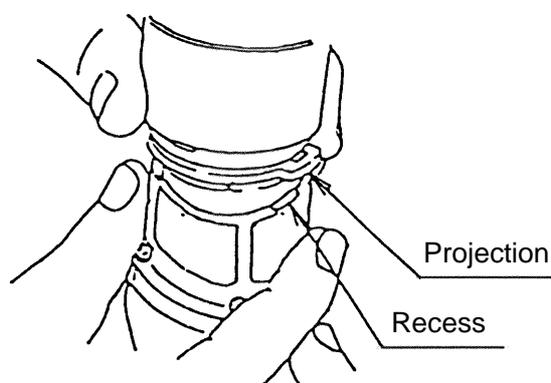

Fig. 12
(f) Install the assembly reassembled in step (1) and the assembly reassembled in step (e) together. (See Fig.12.)